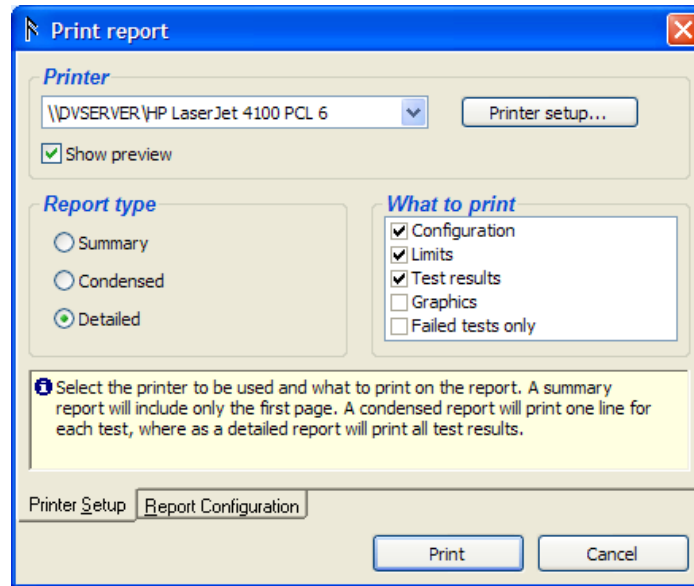

Figure 3-17. Print Report Window
1. With the Test Report open, click File Print or click the toolbar Print button to open the Print Report window shown in Figure 3-17.
To skip the preview before printing, uncheck the Show Preview checkbox in the print report window shown in Figure 3-17.